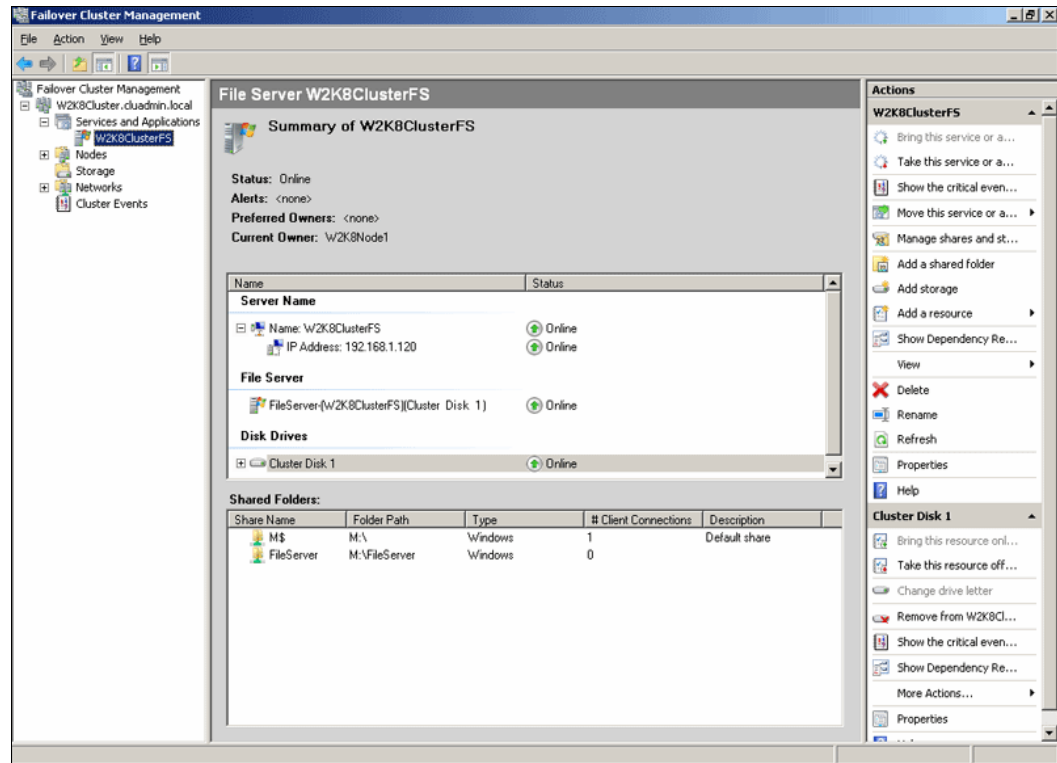

Figure 19-36 File server cluster with configured share folders
16. Figure 19-36 on page 585 shows the Summary window of the file server cluster with configured share folders.